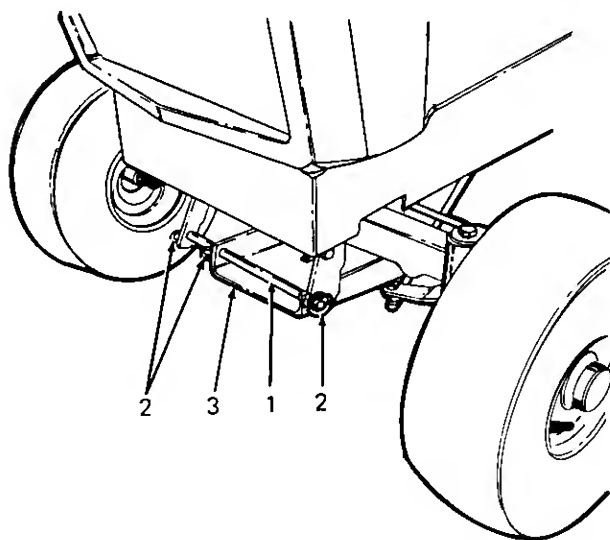

Figure 48.
Figures 48 through 53 illustrate attaching the mower deck to the tractor. The 38 inch deck is shown, but is typical of both the 44 inch deck and the 38 inch deck.
1. Assemble the front hanger assembly to the tractor as shown in Figure 48.